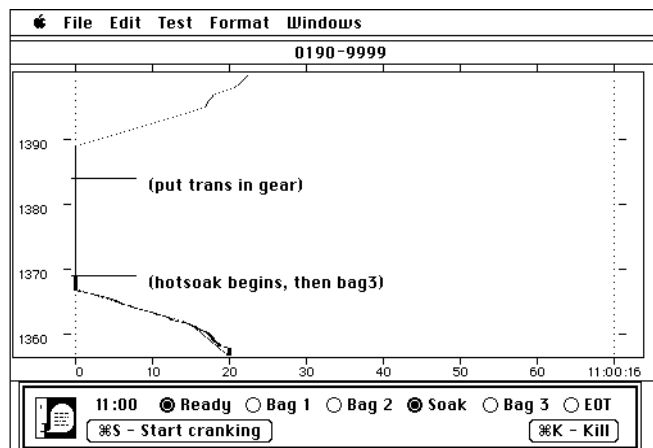

Figure 20
- 421 To start sampling, press <Command-S> and ensure that the “Bag 3” indicator is on; then crank the engine. See Figure 20.